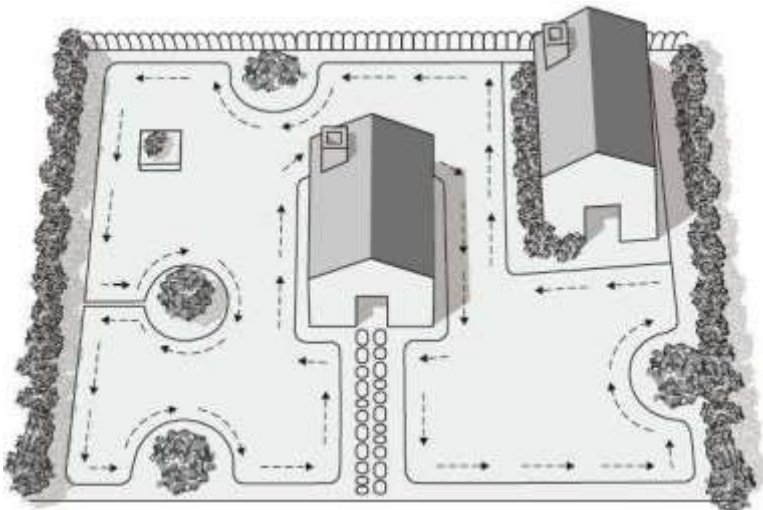

Fig.3A
1. Use the Boundary wire to demarcate areas inside the working area by creating islands around obstacles that cannot withstand a collision, for example, flower beds and fountains. Furthermore, fence out all shock-sensitive objects – and garden ponds (Fig.3A).